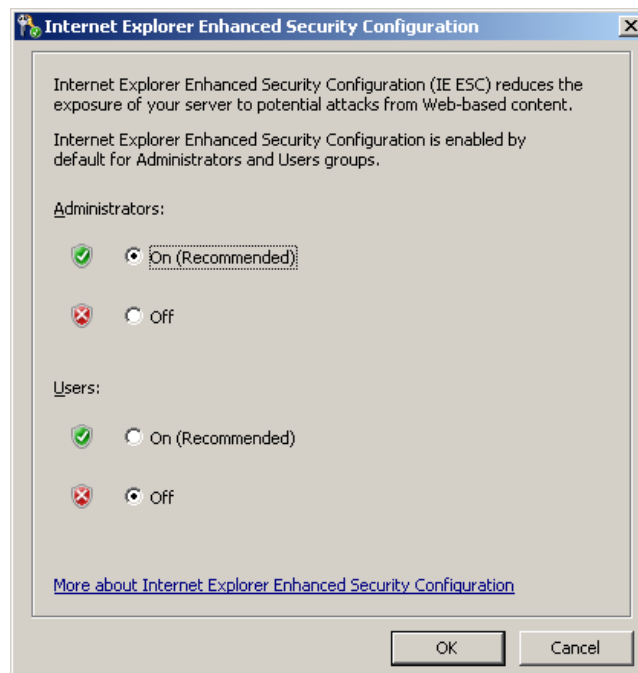

Figure 108
- The **Internet Explorer Enhanced Security Configuration** dialog box is displayed. See Figure 108 below.